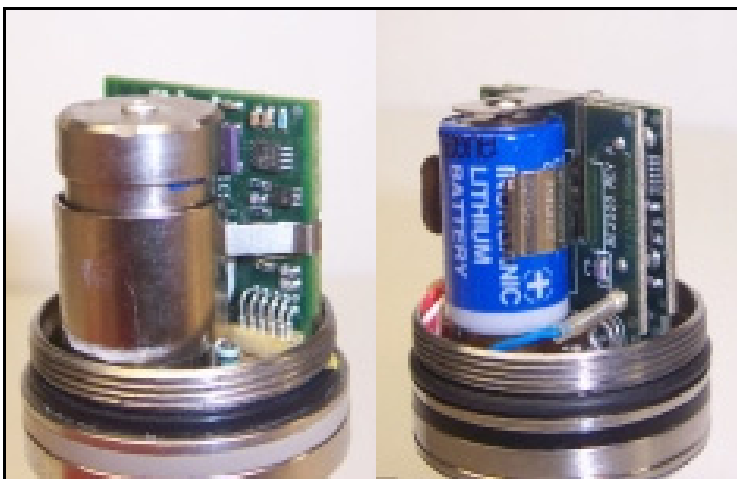

Figure 11: Canister-Style . . . and . . . Clip-Style Holders
3. **Install the Logger battery:** Instructions for installing the battery differ depending on your Logger model (Figure 11 above shows the two types of battery holders). To install the new battery, follow the instructions for your model.
3. To remove the battery, use one of the following options depending on your style of battery holder (see Figure 11 on page 22 to identify your holder style):